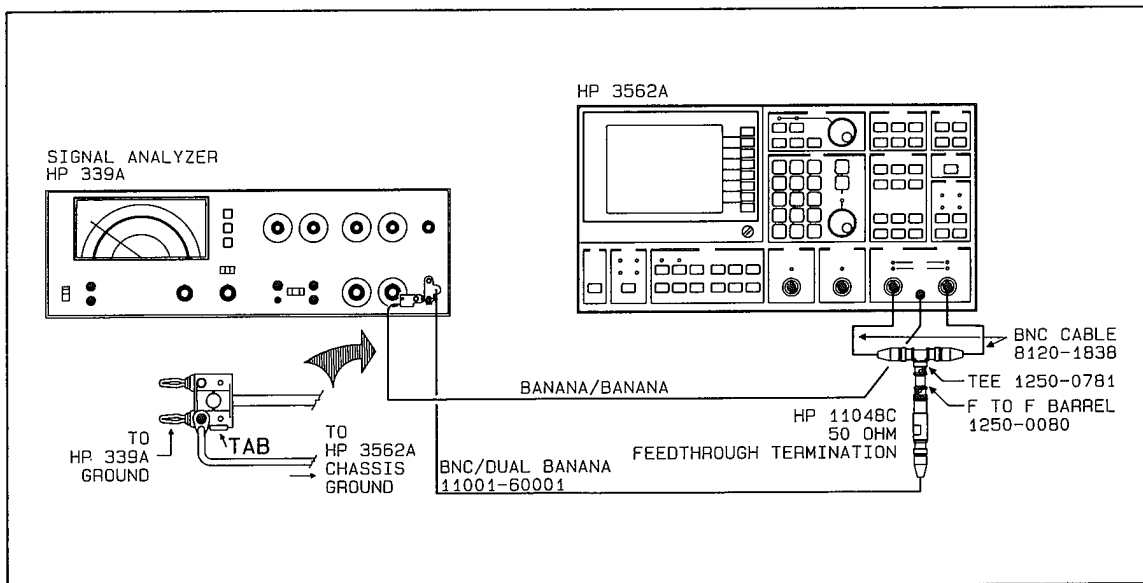

Figure 2-21 Harmonic Distortion Test Setup #1
- Connect the test instruments as shown in figure 2-21. Refer to "Initial Equipment Setup," paragraph 2-20, for unspecified parameters.